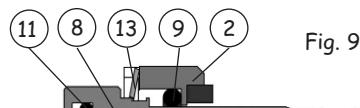

Fig. 9
4.2.1 Preassembling rotating group (fig.9)